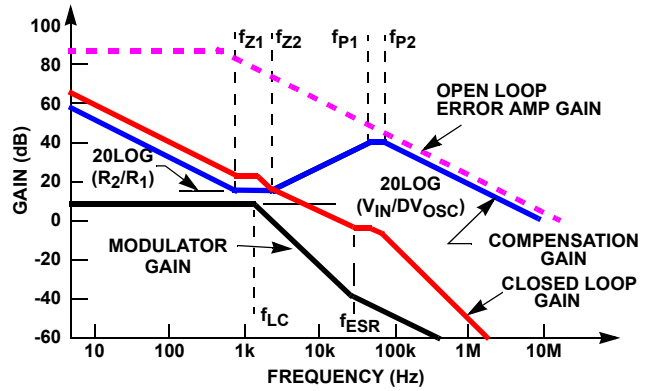

FIGURE 59. ASYMPTOTIC BODE PLOT OF CONVERTER GAIN
Figure 59 shows an asymptotic plot of the DC/DC converter’s gain vs frequency. The actual modulator gain has a high gain peak due to the high Q factor of the output filter and is not shown in Figure 59. Using the guidelines provided should give a compensation gain similar to the curve plotted. The open loop error amplifier gain bounds the compensation gain. Check the compensation gain at f_{P2} with the capabilities of the error amplifier. The closed loop gain is constructed on the graph of Figure 59 by adding the modulator gain (in dB) to the compensation gain (in dB). This is equivalent to multiplying the modulator transfer function to the compensation transfer function and plotting the gain. The compensation gain uses external impedance networks Z_{FB} and Z_{IN} to provide a stable, high bandwidth (BW) overall loop. A stable control loop has a gain crossing with -20dB/decade slope and a phase margin greater than $+45^\circ$. Include worst case component variations when determining phase margin. A more detailed explanation of voltage mode control of a buck regulator can be found in Tech Brief TB417, entitled “Designing Stable Compensation Networks for Single Phase Voltage Mode Buck Regulators”.